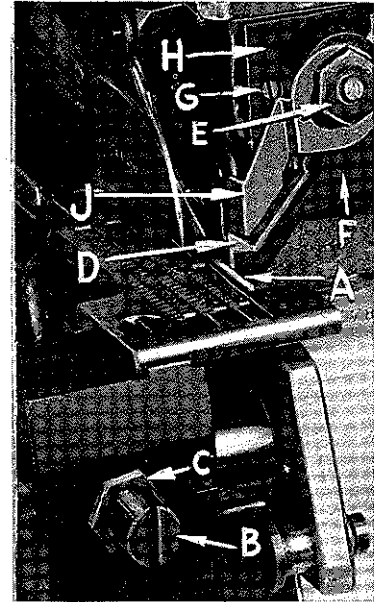

Fig. 13
Replace lower knife holder assembly. Lower knife (A, Fig. 13) should be set with cutting edge flush with throat plate surface. Adjustments are made with hexagonal head screw which holds lower knife. Lower knife is spring pressed against upper knife, so no lateral adjustment is necessary when width of trim is changed.
Replace upper knife assembly. Clamp upper knife (D, Fig. 13) in position, setting nut (E) to hold clamp (F) in its most clockwise position against upper knife. At bottom of its stroke, front cutting edge of upper knife should extend not less than 1/64 inch below cutting edge of lower knife. The chain guard (J) should be set down against the upper knife and slightly back from the cutting edge.